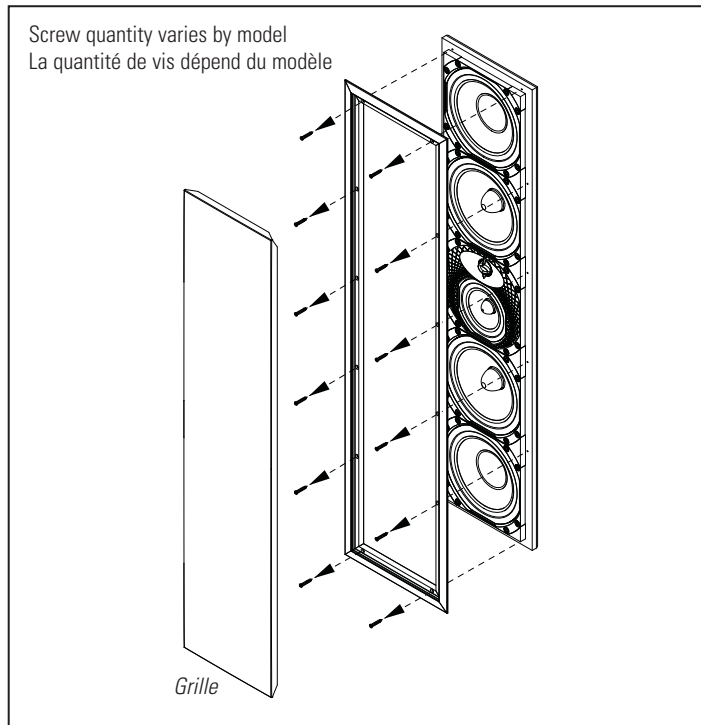

Fig. 11
- 1) Unscrew the speaker's removable metal frame (Fig. 11).